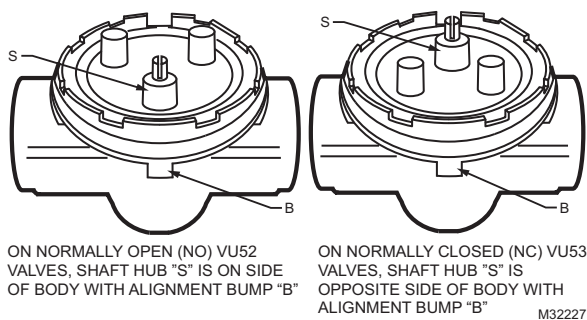

Fig. 4. Alignment of NO and NC 2-way valve tops.
7. Place new actuator mounting plate into top of valve, and align tab with slot. See Fig. 4 for alignment of top on 2-way valves.